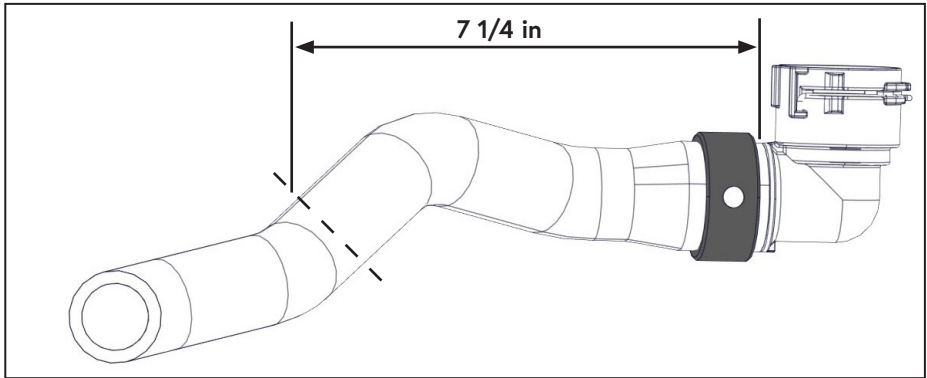

**Figure 23 — Relocating the HCU**
- ☐ Using the OEM fasteners retained earlier, secure the HCU base bracket to the shock tower (Figure 23).